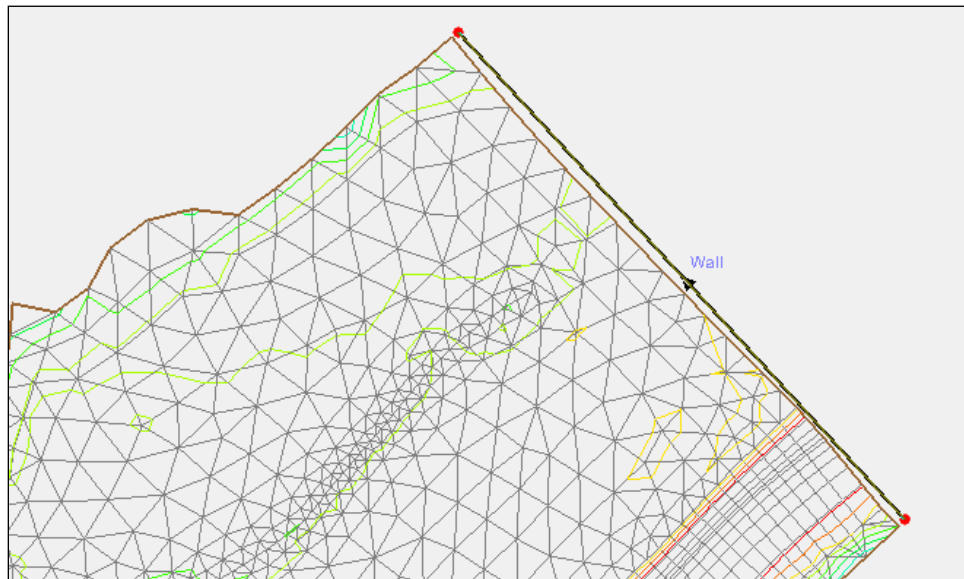

Figure 3 Upstream and downstream arcs selected
8. Repeat step 6 to create an arc just outside the domain on the downstream end as shown in Figure 3.